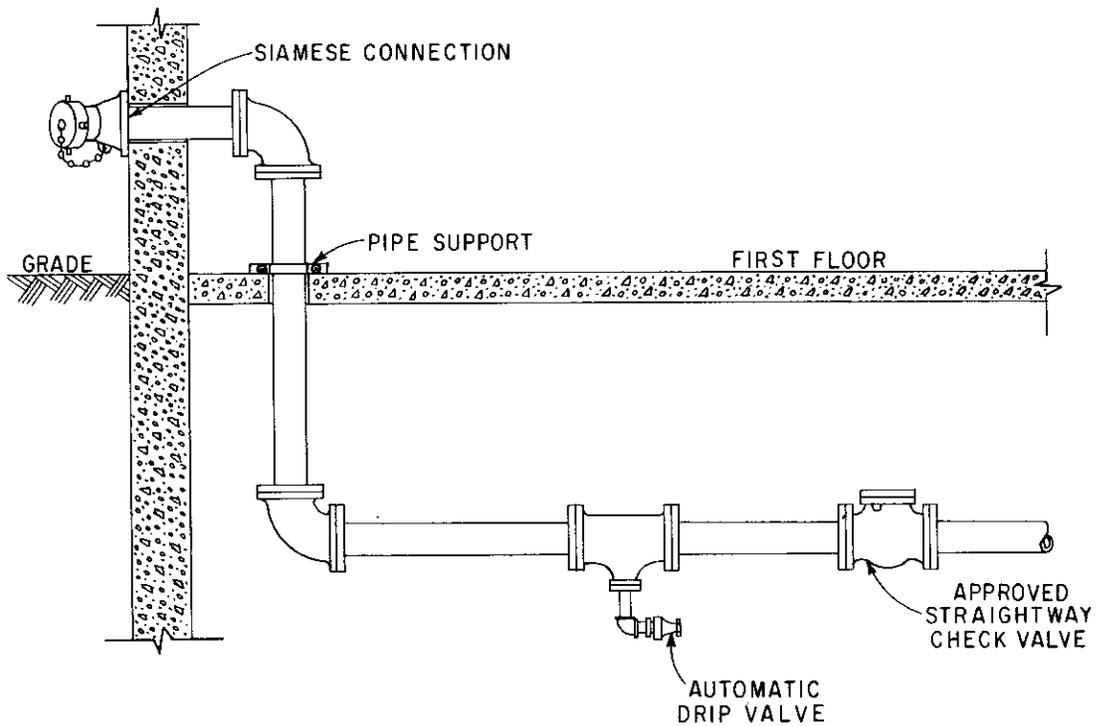

Fig. 3
2.14 Siamese Connections: An outside building Siamese or manifold connection for use by the Fire Department should be provided for standpipes 4 inches and larger. It is to be located on the street wall at a height between 18 inches and 36 inches above grade. Municipal regulations in some cases require a Siamese connection for each street if the building involves more than one street frontage. Each Siamese connection is provided with an approved straightway check valve located in the building. No gate valve is provided. Piping between the check valve and the Siamese connection is arranged to drain automatically. The pipe from the standpipe to the Siamese connection should be at least 4 inches in diameter. See Fig. 3.